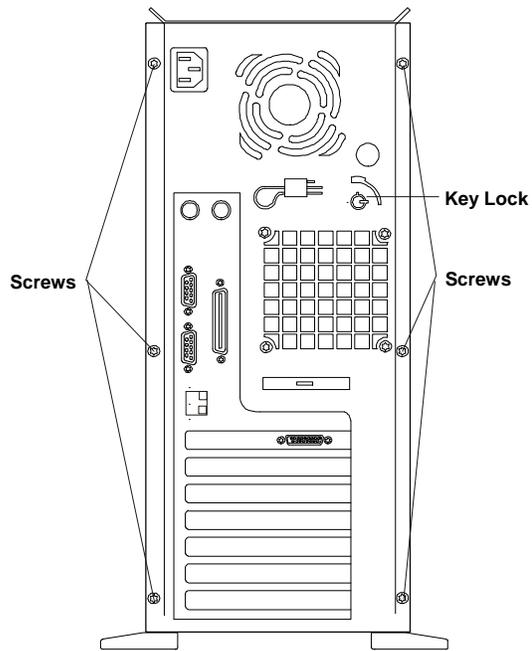

Figure 3-1. Screws and Lock Holding on Cover
2. Unlock the cover: use the key in the key bag located on the rear of the NetServer. The locking mechanism is at the rear (see Figure 3-1).
3. Remove six (6) Torx 15/slotted screws (see Figure 3-1).
4. Replace the six (6) Torx 15/slotted screws in the rear (see Figure 3-1).